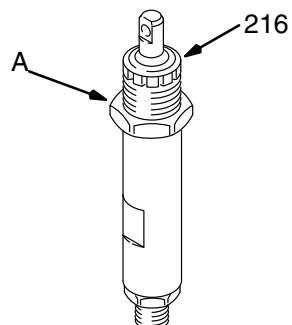

Fig. 35
13. Tighten the packing nut (216) hand tight. Screw the cylinder locknut (A) down to the bottom of the external cylinder threads. See Fig. 35.